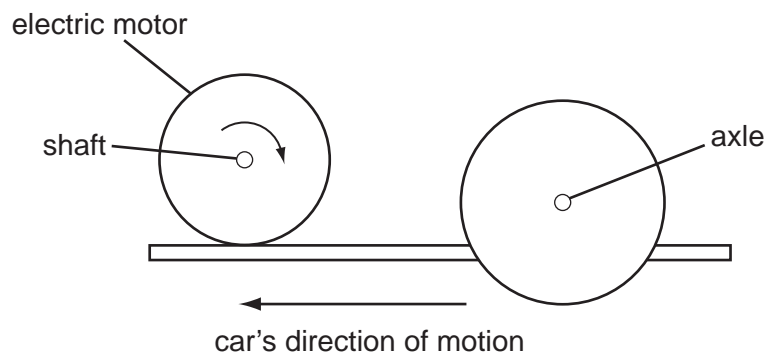

Fig. 6
- 9 Fig. 6 shows an electric motor and the driving axle and one wheel on a model car.
Draw on Fig. 6 to show how the drive shaft on the electric motor could be connected to the axle so that the car moves in the direction shown.